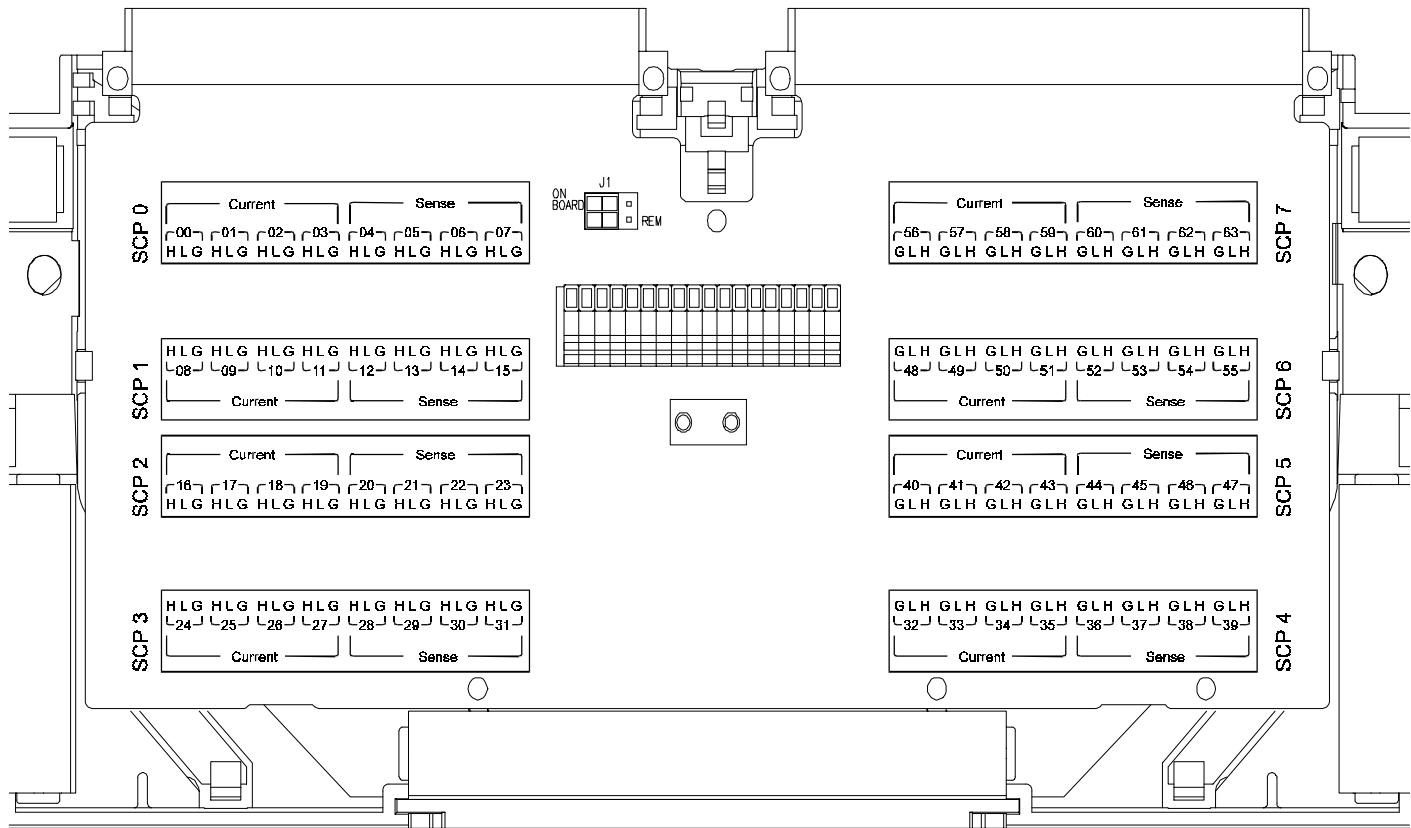

Figure 2 HP E1518 C-Size Terminal Module Connections
- For the HP E1413C and HP E1415A, use the label sheet marked C-size (Figure 2).